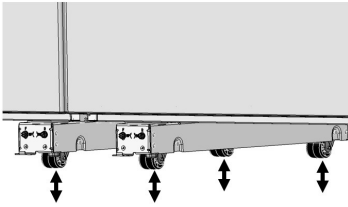

Fig. 8
- c. Use a flat head screw driver or a 3/8" socket wrench to adjust the front bolts of the Leveler Assemblies (Fig. 8). Raise or lower the front and back wheels as needed until the unit rests properly in the cabinet space.